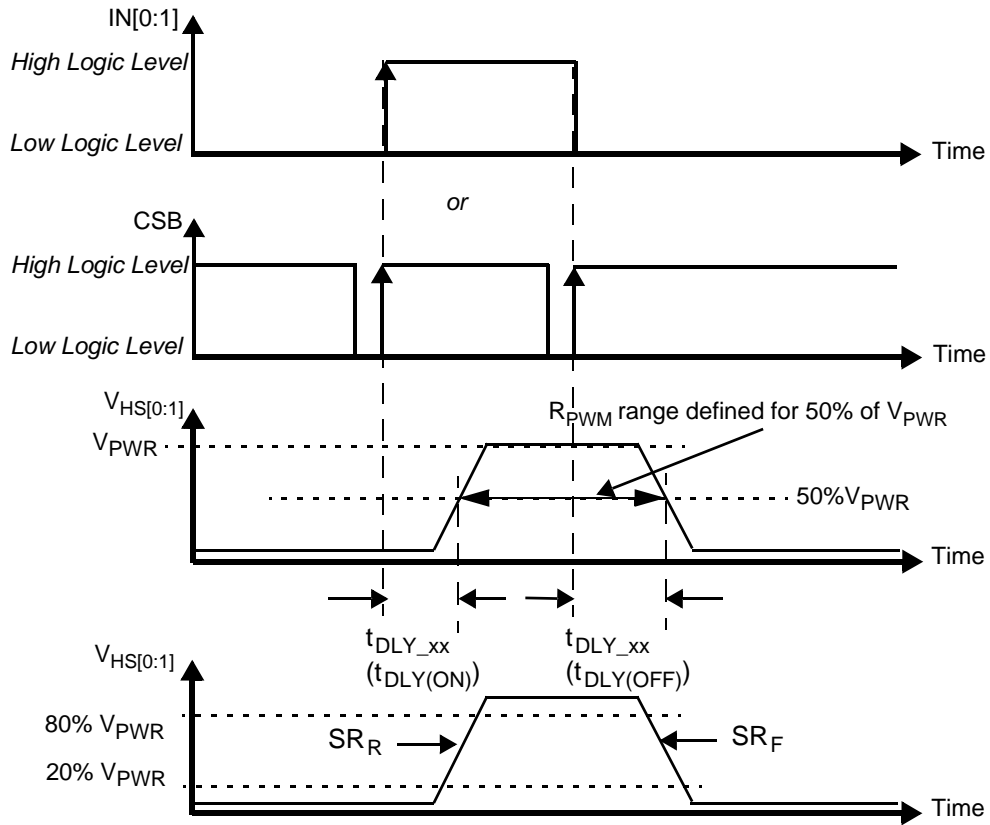
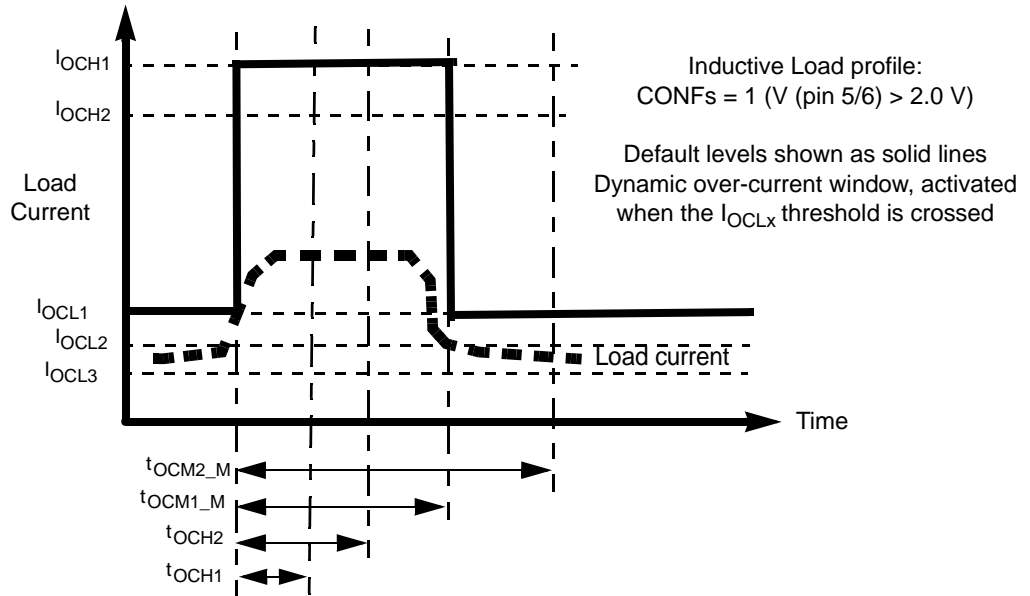
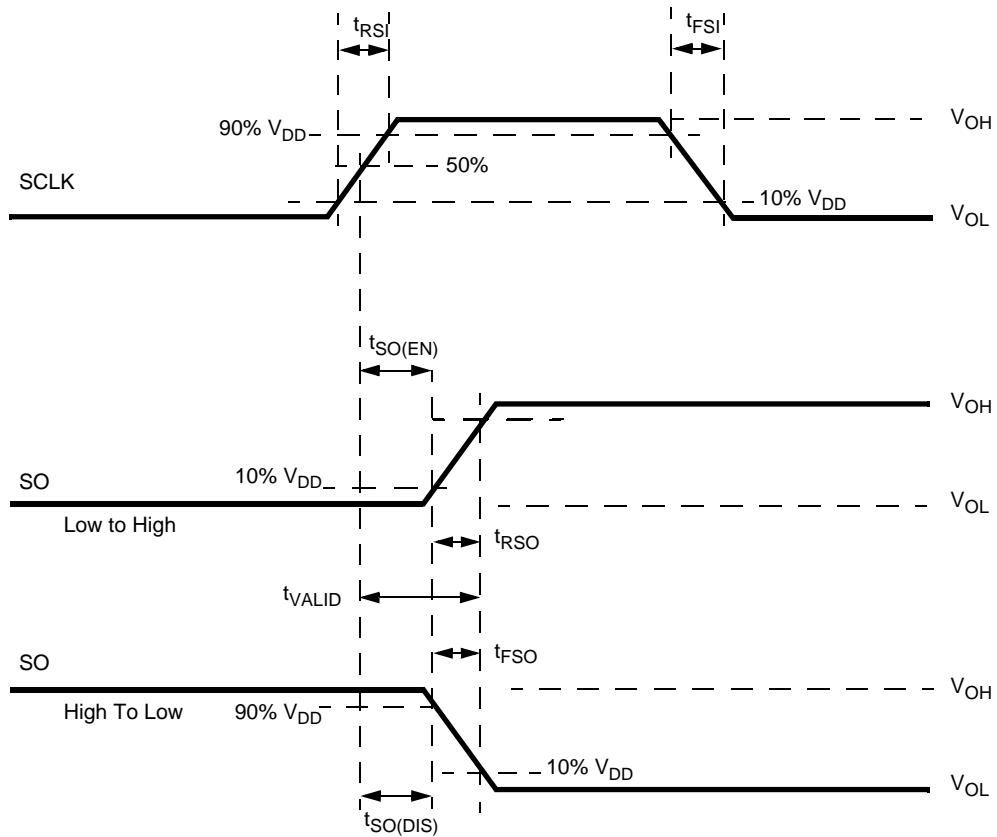

Figure 4. Output Voltage Slew Rate and Delay
Figure 6. Over-current Protection Profile for Applications with Inductive Loads (DC motors, solenoids)
Figure 8. Timing Diagram for Serial Output (SO) Data Communication
27. Rising and Falling edge slew rates specified for a 20 to 80% voltage variation on a 5.0 Ω resistive load (see Figure 4).
- Rising and Falling edge slew rates specified for a 20 to 80% voltage variation on a $5.0\ \Omega$ resistive load (see Figure 4).
- Time required to switch off the channel after detection of over-temperature (OT), over-current (OC), SC or UV error (time measured between start of the negative edge on the FSB pin and the falling edge on the output voltage until $V(\text{HS}[0:1]) = 50\%$ of V_{PWR}
- Settling time ($= t_{\text{CSNSVAL_xx}}$), SYNC output signal delay ($= t_{\text{SYNCVAL_xx}}$) and Read-out delay ($= t_{\text{SYNREAD_xx}}$) are defined for a stepped load current ($100\text{ mA} < I(\text{LOAD}) < I_{\text{OCLX A FOR CSNS_RATIO_S}} = 1$, AND $300\text{ mA} < I(\text{LOAD}) < I_{\text{OCLX A}_0}$ FOR $\text{CSNS_RATIO_S} = 0$). (see Figure 8 and Output Current Monitoring \(CSNS\))
The CS pin allows independent current monitoring of channel 0 or channel 1 up to the steady-state over-current threshold. It can also be used to sense the device temperature. The different functions are selected by setting bits CSNS1_en and CSNS0_en to the appropriate value (Table 21). When the CSNS pin is sensed during switch-off in the (optional) track & hold mode (see Figure 8), it will output the scaled value of the load current as it was just before turn-Off. When several devices share the same pull-down resistor, the CSNS pins of devices, the current of which is not monitored, must be tri-stated. This is accomplished by setting CSNS0_en = 0 and CSNS1_en = 0 in their GCR register (Table 11). Settling time ($t_{CSNSVAL_XX}$) is defined as the time between the instant at the middle of the output voltage's rising edge ($HS[0:1] = 50\%$ of V_{PWRR}), and the instant at which the voltage on the CSNS pin has settled to $\pm 5.0\%$ of its final value. Anytime an over-current window is active, the CSNS pin is disabled (see Over-current Detection on Resistive and Inductive Loads). The current and temperature sensing functions are unavailable in Fail-safe mode and in Normal mode when operating without the V_{DD} supply voltage. In order to generate a voltage output, this pin requires a pull-down resistor ($R(CSNS)=1.0\text{ k}\Omega$ typ. and $470 < R(CSNS) < 10\text{ k}$). When the current sense resistor connected to the CSNS pin is disconnected, the CSNS voltage is clamped to $V_{CL(CSNS)}$. The CSNS pin can source currents up to about 5.6 mA.
edge of CSB. The SO output driver is enabled when CSB is logic [0]. CSB should transition from a logic [1] to a logic [0] state only when SCLK is at logic [0]. CSB is internally pulled up to V_{DD} through I_{UP} . (see Figure 6 and Figure 8)